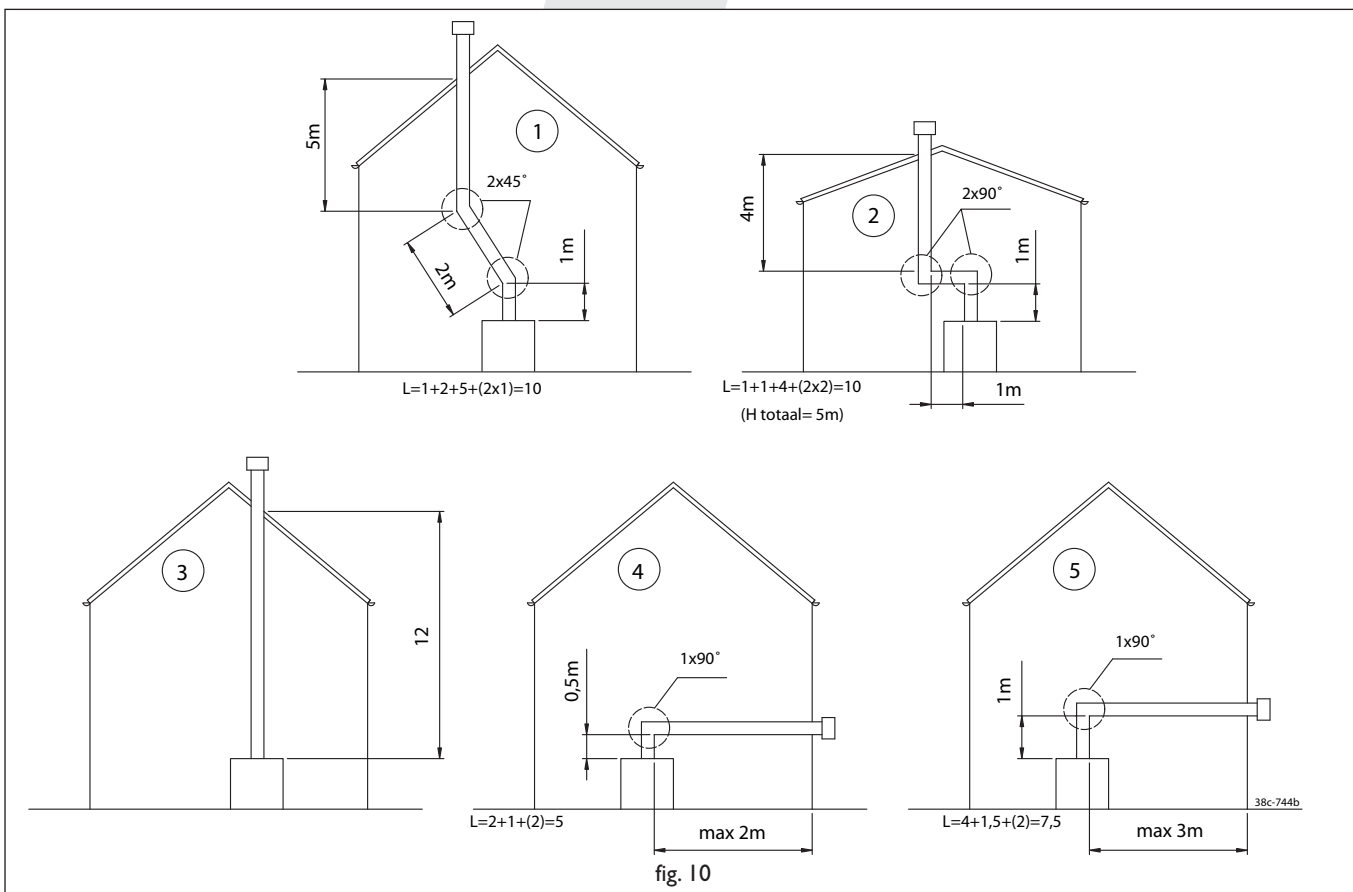

fig. 10
Possible connections (fig. 10)
The maximum total length is the sum of the pipe lengths plus the equivalent length for the bends (see the 5 examples in fig. 10).
- Select the required connection from the options shown in figure 10.
Fig. 10 illustrates how to calculate the total lengths of pipe.